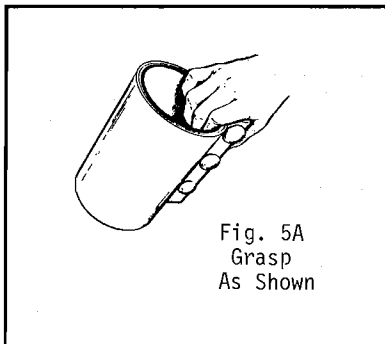
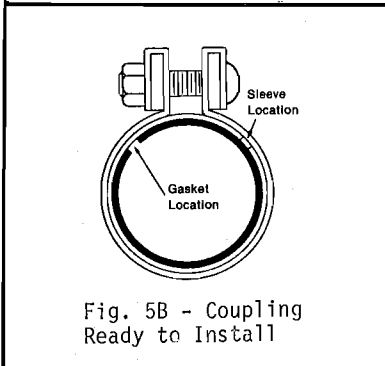

Fig. 5A
Fig. 5B - Coupling
- A. HOW TO HANDLE COUPLINGS - Couplings are shipped ready-to-install...do not disassemble. To prevent gasket from slipping out of proper position always grasp coupling as shown in Figure 5A. This will save time by maintaining proper position of gasket and sleeve in relation to shell and flange.
3. Grasp coupling as shown in Figure 5A to keep gasket and sleeve (and gasket protector when used) in separate quadrants, as shown in Figure 5B. Be sure gasket teeth mesh and do not overlap.